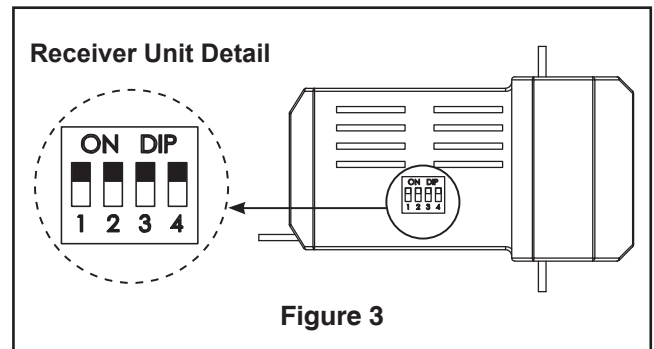

Figure 3
2. To set the receiver unit code, slide code switches to the same positions as set on your transmitter (Figure 3).